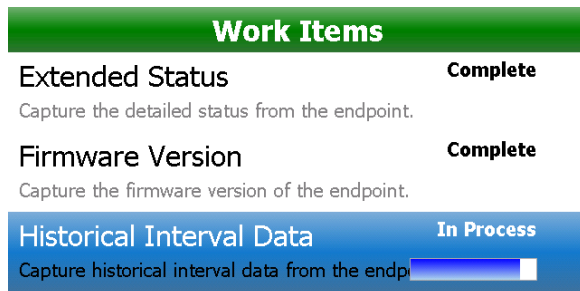

Figure 50: Data collection "In Process"
*As the data is requested and extracted from the endpoint, a progress bar displays as shown in Figure 50.*